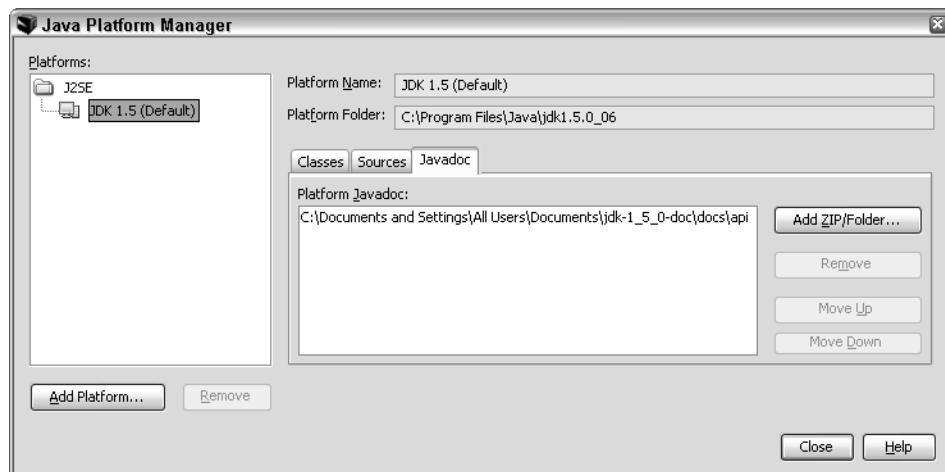

FIGURE 4-10: Setting up the NetBeans Java Docs path.
4. Click the Javadoc tab as shown in Figure 4-10.